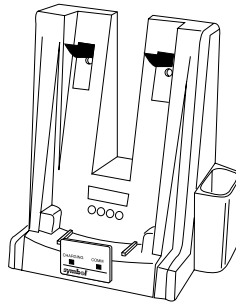

Figure 2-4. Removing the Tape Covers
4. Remove the black tape covers from the cradle screw holes (Figure 2-4).